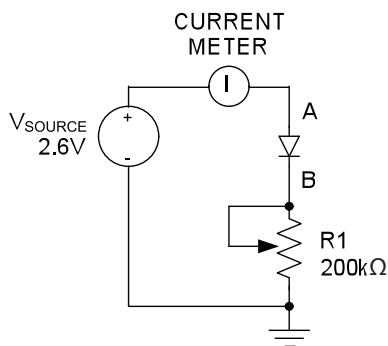

Figure 7. Test Circuit for Determining $V_{F(DARK)}$
Set up the test circuit of Figure 7. Adjust $R1$ until the current meter indicates I_{DARK} (choose $I_{DARK} < 1\text{mA}$). Use a volt meter to measure the voltage at the anode of the LED (A), and then at the cathode of the LED (B). Subtract the voltage measured at B from that measured at A to determine $V_{F(DARK)}$. Some typical values determined using this method are listed in Table 2.
Table 2. Some Typical I_{DARK} and $V_{F(DARK)}$ Values Determined Using Figure 7